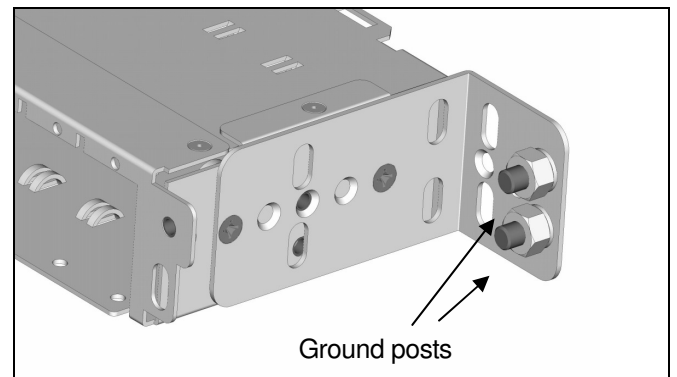

Figure 7. Chassis ground connector
- 1) Choose an appropriately sized ground lug to fit the dual ground posts on the mounting bracket of the chassis, shown in Figure 7. The studs are 1/4" diameter with 5/8" center-to-center spacing.